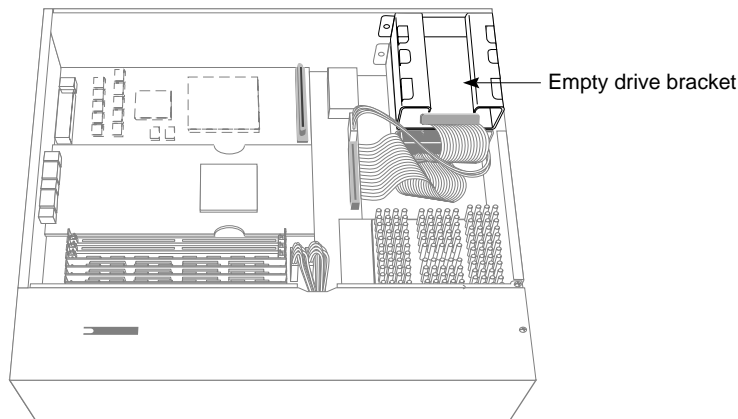

Figure 6-1 Locating the Drive Bracket Above the System Disk
5. Move the system or position yourself so that the power supply is close to you and the system drive and empty drive bracket are in the upper right-hand corner, as shown in Figure 6-1.